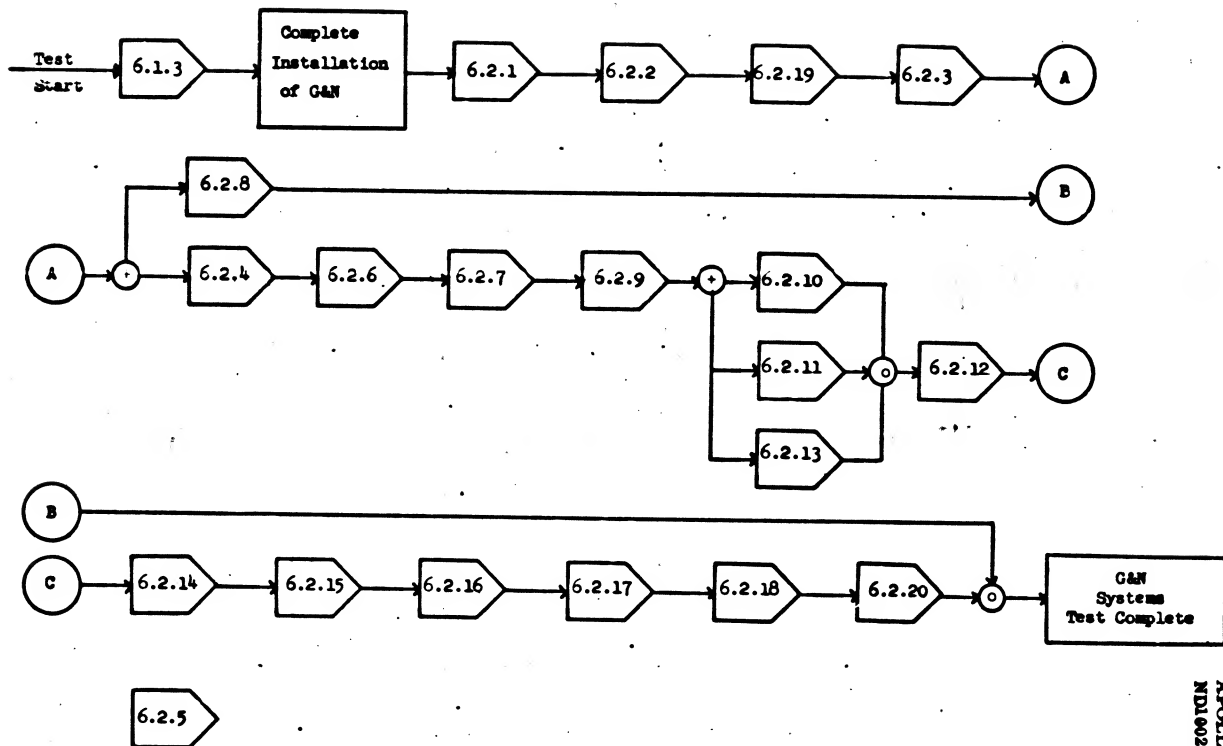

FIGURE 1 - TEST PROCEDURE FLOWGRAM
- 5.4.1 The test sequence normally should follow the flow outlined by Figure 1 in the order specified except 6.2.5. Turn On and Turn Off procedure, which may be performed as the requirement arises. The following is a complete listing of tests.